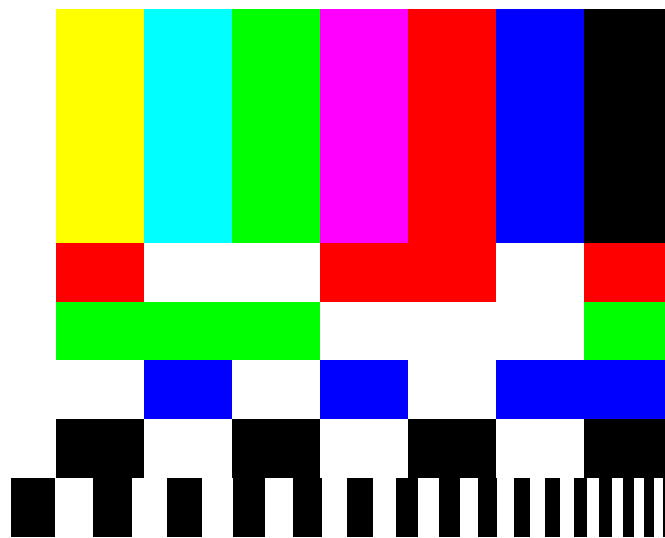

Figure 2 - Possible test image showing all color combinations
- The test image is generated by the circuit (*not pre-recorded*) and consists of all possible color combinations that can be combined with the **3bit per pixel (bpp) DVI** module. The illustration Figure 2 shows a possible test image that can be displayed.